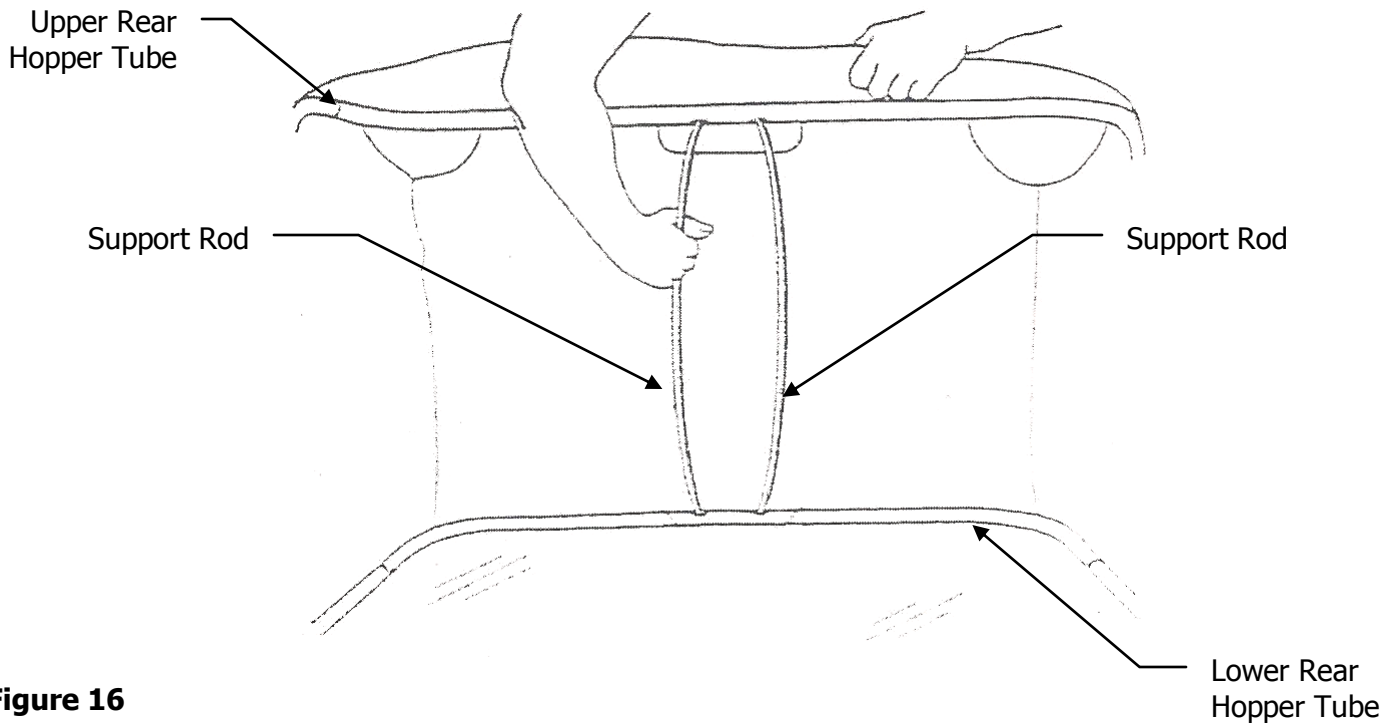

Figure 16
16. Tip the Hopper onto it's back to assemble the two Hopper Support Rods. Place the ends of each rod into the Upper and Lower Rear Hopper Tubes, bending the rod just enough to fit into the holes of the tubes. See Figure 16.